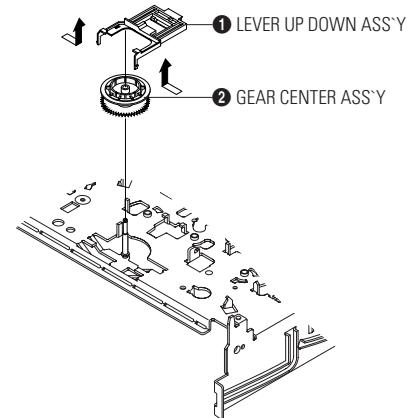

Fig. 3-21 Lever Up Down Ass'y Removal
- 1) Remove the 2 hooks in the direction of arrow as shown Fig. 3-21 and lift the Lever Up Down Ass'y ①.
- 2) Lift the Gear Center Ass'y ②.